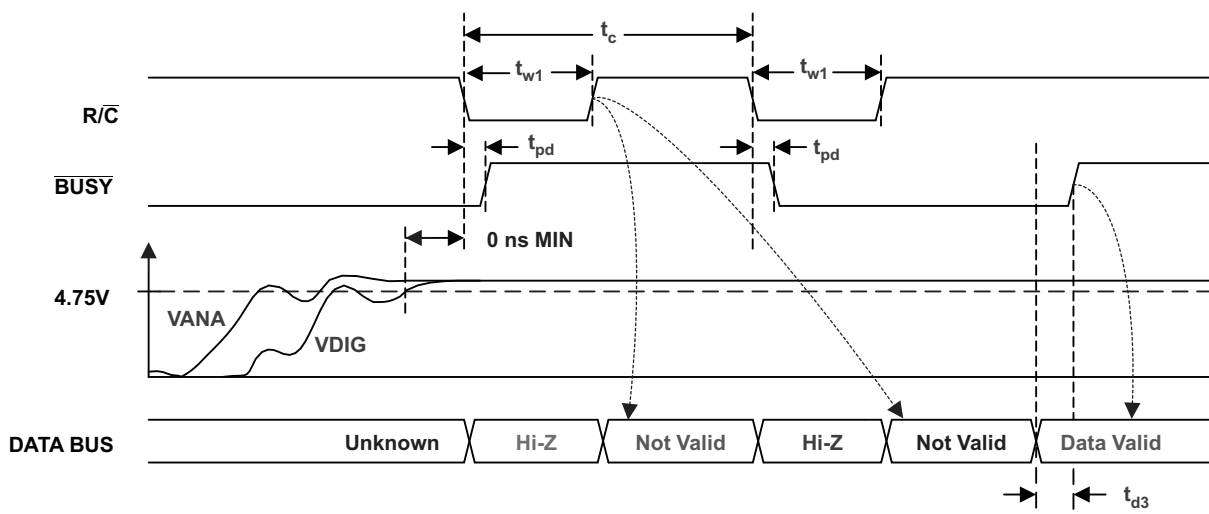

Figure 26. ADC Reset
The combination of \overline{CS} (pin 25) and R/\overline{C} (pin 24) low for a minimum of 40 ns immediately puts the sample/hold of the ADS8505 in the hold state and starts conversion n . \overline{BUSY} (pin 26) goes low and stays low until conversion n is completed and the internal output register has been updated. All new convert commands during \overline{BUSY} low will abort the conversion in progress and reset the ADC (see Figure 26).
(2) See Figure 26 for details on ADC reset.